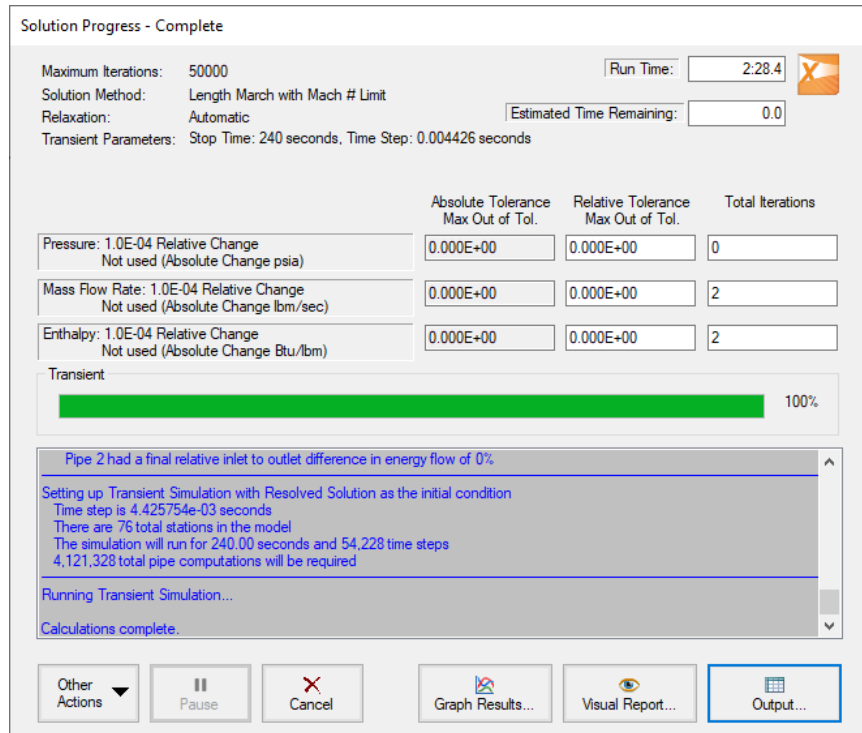

Figure 2.18 The Solution Progress window displays the state of the simulation
- Choose "Run Model..." from the Analysis menu or click the "Run Model" button on the Main Toolbar. During execution, the Solution Progress window displays the state of the simulation (Figure 2.18). You can use this window to pause or cancel the solver's activity.